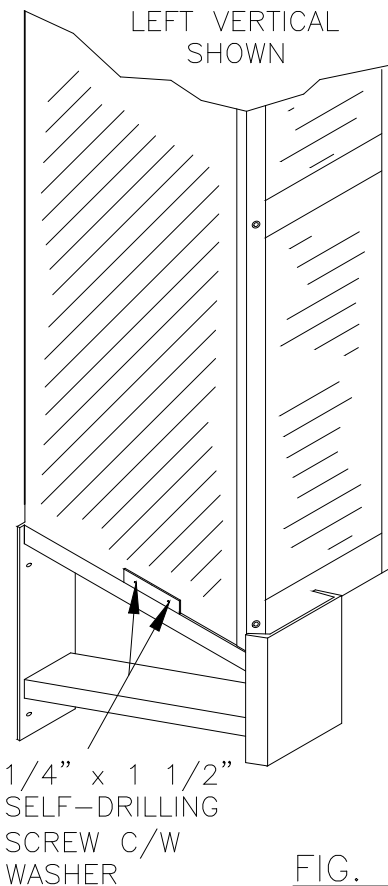

FIG. 8
- a. **Position Vertical Frame** (Figure 8). Lift Vertical Frame on top of Protective Guard. Place wall edge flush to wall. Place exterior siding side flush to welded bracket on Protective Guard.